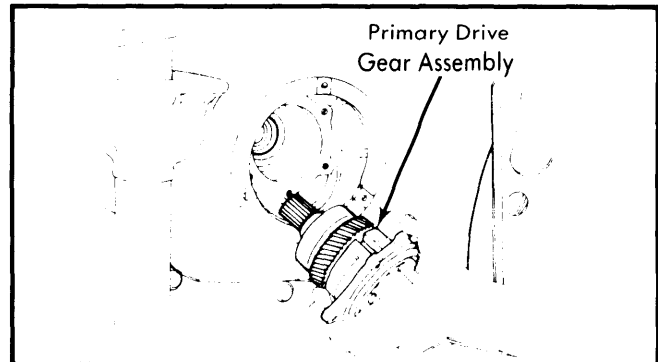

Fig. 2 Removing Primary Drive Gear Assembly
2) Remove bearing housing attaching bolts and remove primary drive gear assembly through access hole. See Fig. 2. Remove upper clutch housing inspection cover. Rotate ring gear with suitable tool and loosen clutch cover attaching bolts evenly. Lift out clutch cover and disc through inspection cover opening. Remove strap securing pressure plate to clutch cover and remove disc.